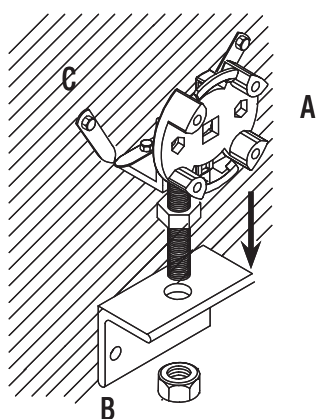

Fig. 14
2. Secure the adjustable motor support (Fig. 14 ref. **A**) in the hole of the square (Ref. **B**), as shown in figure 14